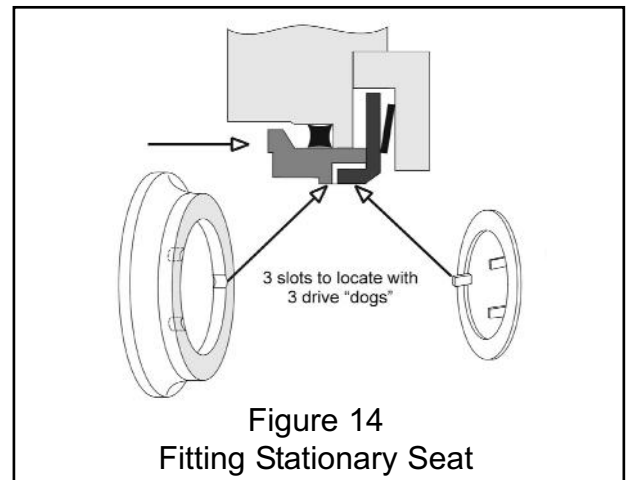

Figure 14
- Fit the joint ring (83) to static primary seal face and lubricate bore in the rotor case with a suitable lubricant compatible with the pumped fluid and the elastomer. Do not use mineral-oil based lubricants on EPDM joints.
- Align slots in seal face with 'dogs' of drive plate in seal housing; a small cut-out is provided so one drive dog can be seen (See figure 14). Push each seal seat in straight; when correctly fitted, seal seats should slide freely against the resistance of their springs.